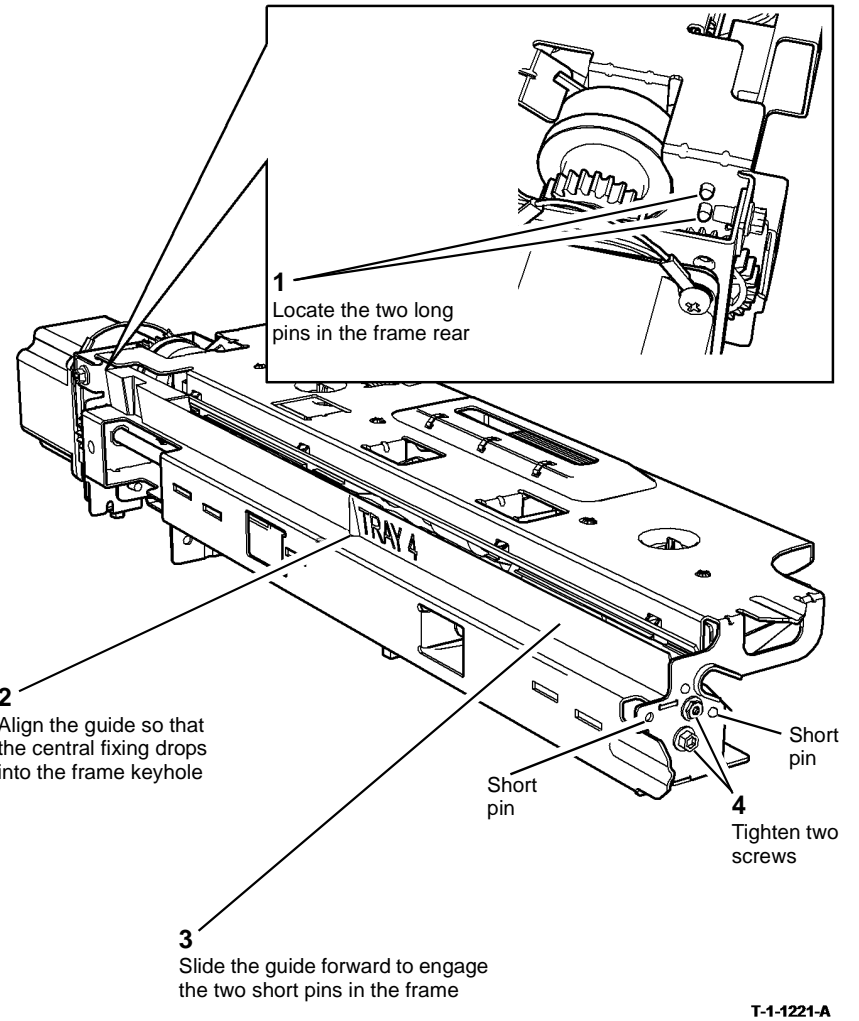

Figure 2 Paper guide replacement
- Install the tray 4 paper guide, Figure 2.